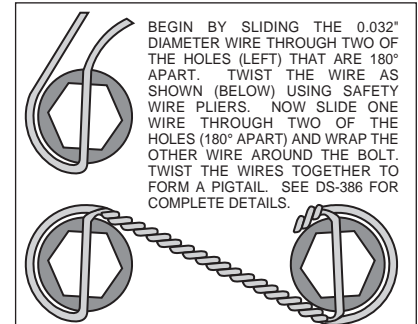

Figure 4. Safety Wire Diagram
- Install bolts (2) through caliper mounting bracket (1) into steering arm, finger tighten only. After you are positive of the bracket (1) alignment, remove the mounting bolts (2) one at a time and Apply red *Loctite*® 271 to bolt threads, then reinstall. Torque bolts (2) to 30 ft-lb. **NOTE:** Be sure the heads of the bracket (1) insert nuts are facing outward toward the wheel.
- Install wheel studs (3) into the hub (4). Torque to 77 ft-lb. **NOTE:** There are two (2) five lug patterns in the hub (5 x 4.50 and 5 x 4.75). Make sure of the correct hole pattern for the correct wheel application before installing studs into hub.
- Pack the large inner bearing cone (5) with high temperature disc brake bearing grease (available from your local auto parts store) and install into the backside of the hub (4). Install the grease seal (6) by pressing into the backside of the hub (4).
- Attach rotor adapter plate (7) to rotor (8) using bolts (9). Using an alternating sequence, apply red *Loctite*® 271 to the threads and torque bolts (9) to 25 ft-lb. For an added measure of security, the bolts may be safety wired using standard 0.032 inch diameter stainless steel safety wire as shown in Figure 4. Please refer to Wilwood's data sheet DS-386 for complete safety wire installation instructions. **NOTE:** Dished side of adapter plate (7) should face hub (4). The machined tab side of the iron rotor (8) should face the adapter plate (7).